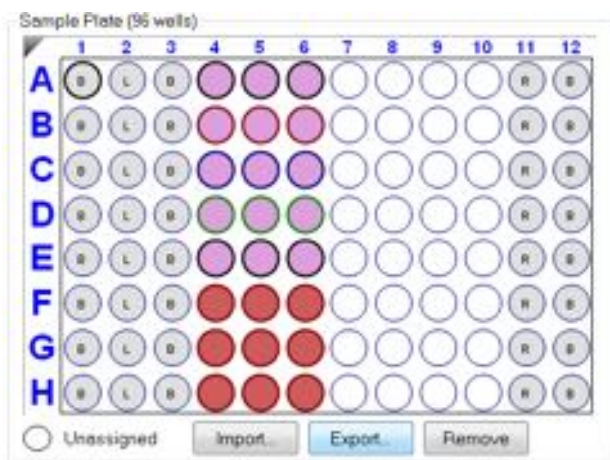

Figure 8-19: Sample Plate Map—Export Button
1. In the **Sample Plate Map**, click **Export** (see Figure 8-19).
1. In the Sample Plate Definition window (see Figure 8-19: on page 394), click **Import**.